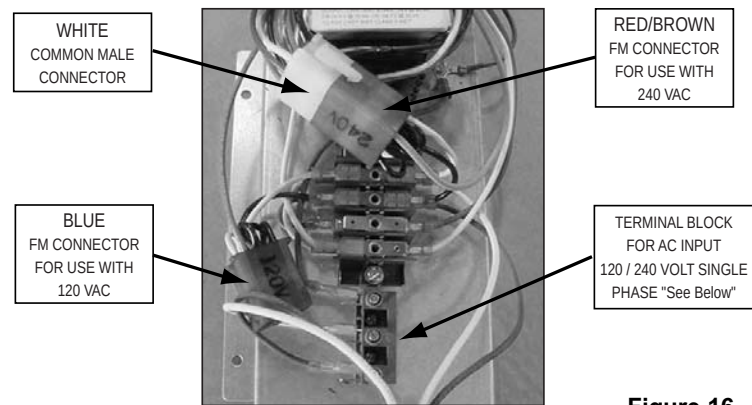

Figure 16.
- The MiniMax NT heater is prewired for 240 volt AC connection using the “RED/BROWN” female connector and the “WHITE” common male connector; see below, Figure 16. If you require the heater to be connected to 120 volts AC, remove the “RED/BROWN” female connector from the “WHITE” common connector; now locate the “BLUE” female connector and plug it into the “WHITE” common connector.
You might need to open the right door then remove the control panel cover for servicing the Line Terminal Block as shown in Figures 16 & 17, (see item 40 in the exploded view on page 33).